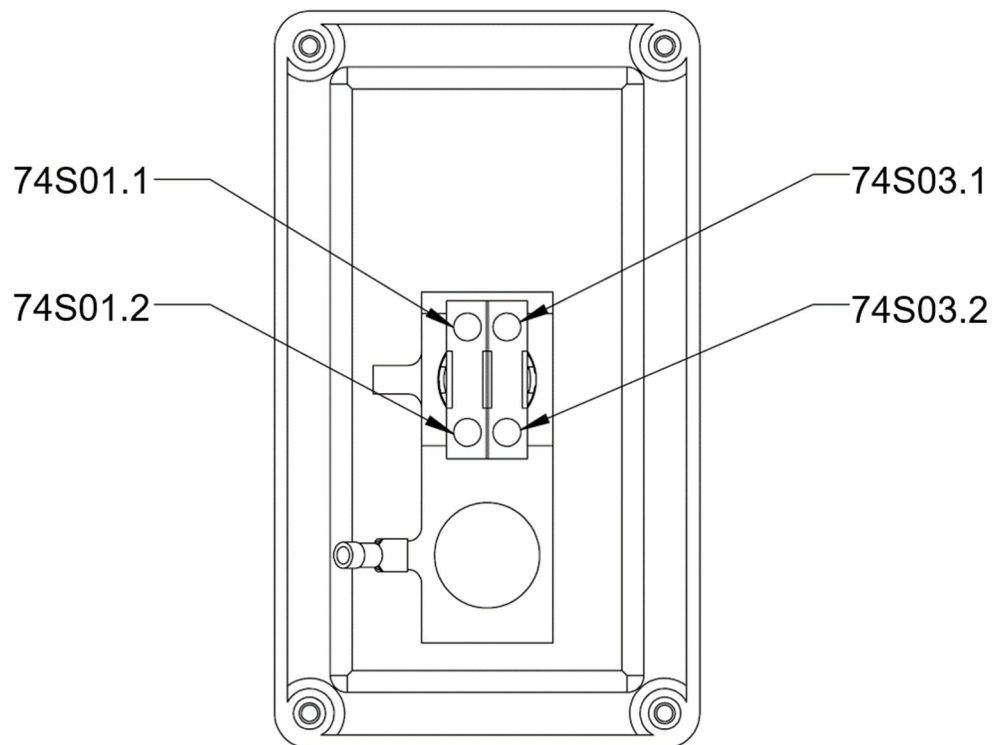

Figure 148 - Terminal Designations for 50Hz Emergency-Stop Button
- Terminal numbers are shown in Figure 148 for PDQ Part No. 11010500.